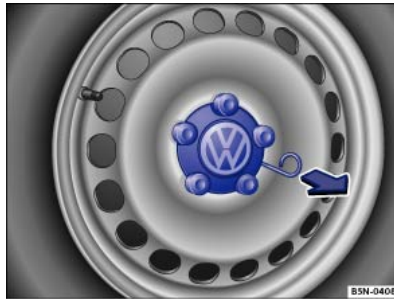

Fig. 241 Removing the centre covers by pulling.
- To *remove*: take the wire hook from the vehicle tool kit ⇒ *Vehicle toolkit* and hook it into the edge of the cover ⇒ Fig. 241 .